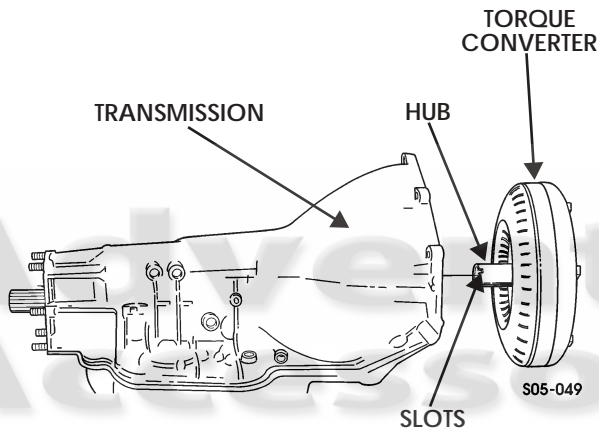

Figure 5-96: Transmission and Torque Converter
2. Remove torque converter from transmission (Figure 5-96).
3. Install torque converter in transmission. Ensure drive lugs of inner pump rotor in oil pump are properly engaged with drive slots of torque converter hub (Figures 5-96 and 5-97).